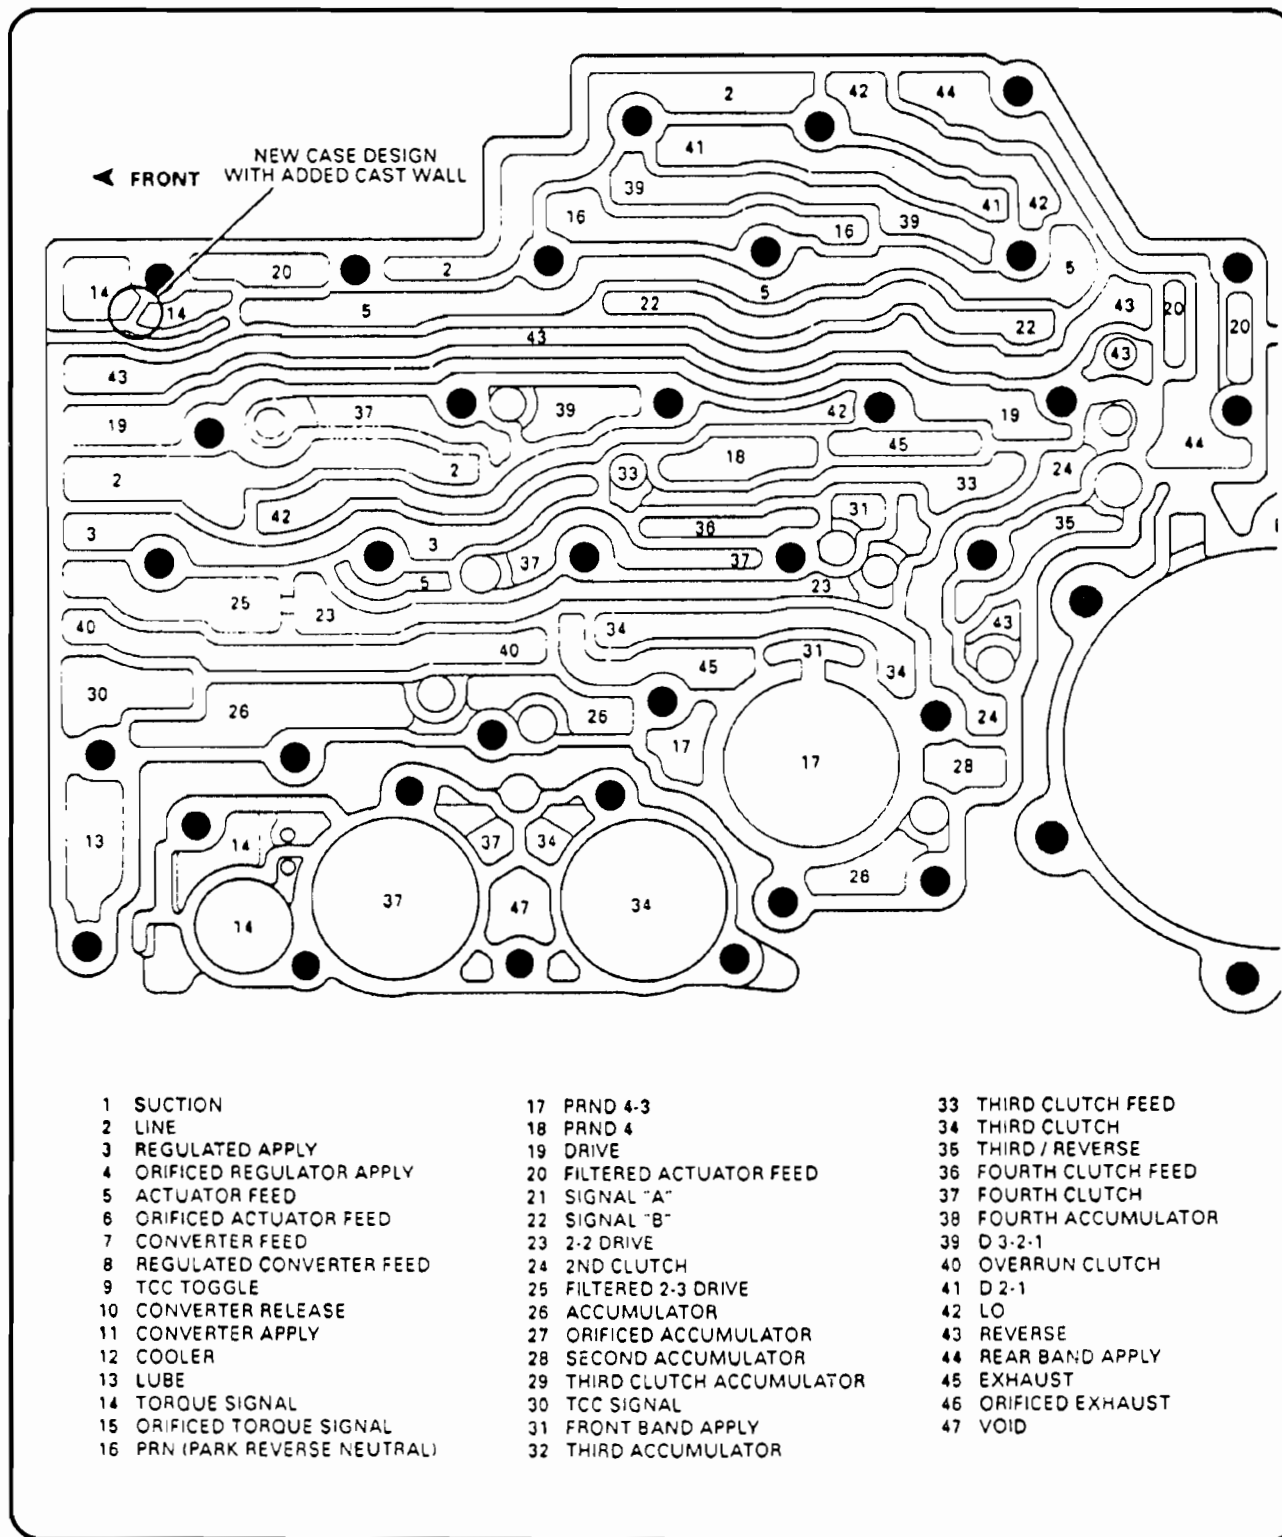

Figure 54
- (1) TRANSMISSION CASE - Oil dam was added to the worm track area in the torque signal oil circuit, as shown in Figure 54
- (2) SPACER PLATE - Slot removed and an orifice added to the torque signal oil circuit, to correct the line pressure instability.
- (3) SPACER PLATE GASKETS - Hole configuration changed to accomodate the added orifice in the spacer plate.